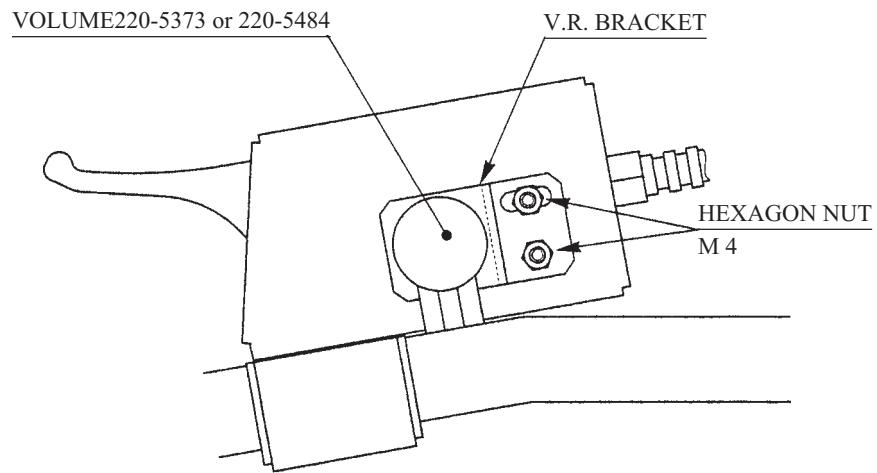

FIG. 12. 1
④ Loosen the 2 Nuts which secure the Volume Bracket to move the Volume Bracket. (FIG. 12. 1).